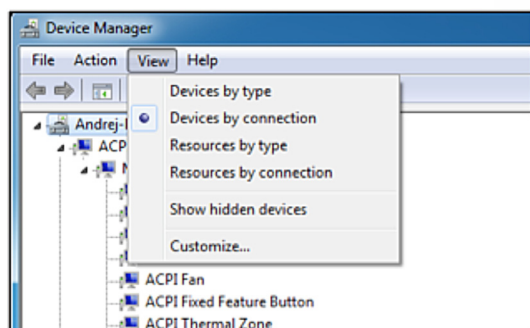

Figure 1. Devices by connection
2. In the menu, click View -> Devices by Connection (Figure 1)